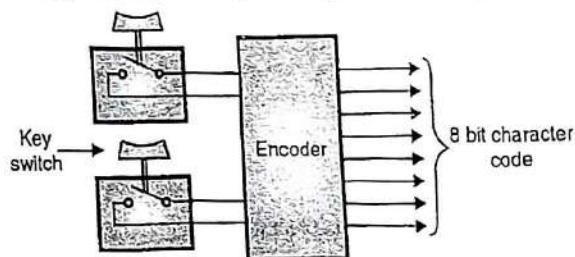

Fig. 7.1.1 : General operation of a keyboard
- Fig. 7.1.1 shows the general operation of a keyboard.